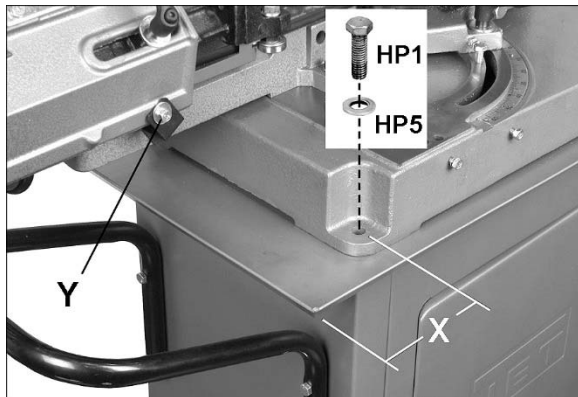

Figure 5-4
See Figure 5-4.
2. Using an assistant, place band saw atop chip pan (M).
5. Remove two screws and shipping bracket (Y, Figure 5-4) which secured the bow during shipment. Retain these items in case they are needed for future transporting of machine.